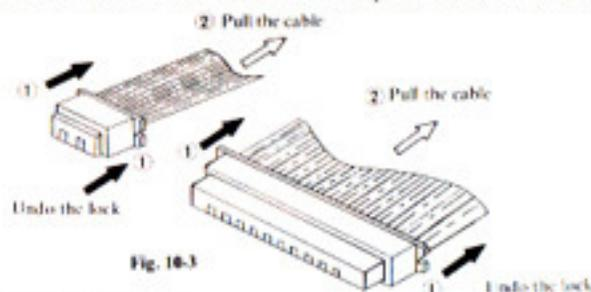

Fig. 10-3
4. Release the connector locks connect for the flat cable and disconnect the flat cables (refer to Fig. 10-3). Then remove the main P.C. board from the pattern case whole unit.